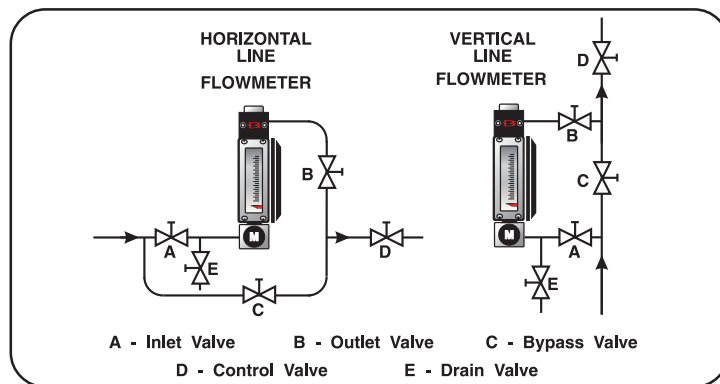

Figure 1 Typical Flowmeter Installation
## Installation (See Figures 1 and 2)
- Installation of a bypass piping arrangement is recommended, see Figures 1 and 2 Typical Flowmeter Installations. Bypass piping permits the meter to be isolated from the flow for servicing and cleaning.